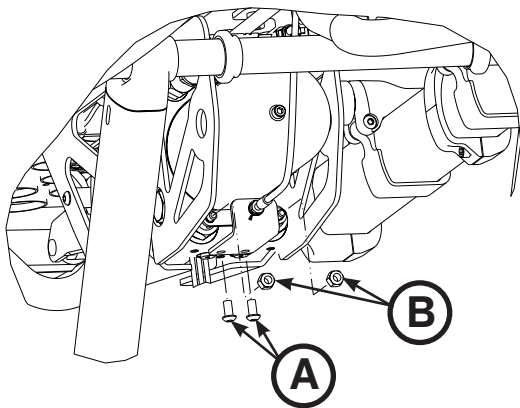

Figure 95
3. Using a T27 Torx driver, remove the two button head cap screws (A) that secure the manual release cable bracket to the bottom of the hydraulic subassembly (Figure 95).
5. Using a 7/16" combination wrench, remove the Nylock hex nut (B) from each of the valve stems (Figure 95).